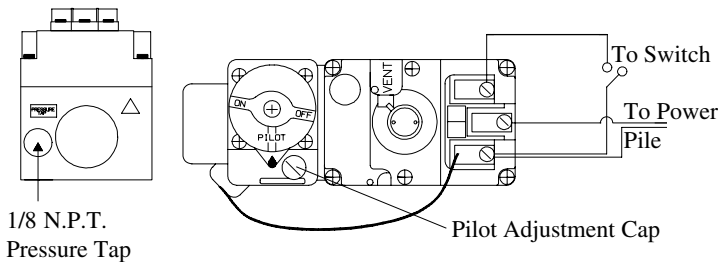

FIGURE 5. GAS CONTROL VALVE
The **Montigo 36SR** is equipped with a remote-operated valve, located behind the removable grille, at the bottom of the fireplace. (Refer to Figure 5 on the last page.) The valve is pre-wired and completely self-contained and self-powered: **DO NOT** connect any external power to it.
The gas control valve is located behind the grille in the centre of the fireplace (see Figure 5 below). Before lighting the pilot, make sure that the gas line is connected and the gas shut-off valve is turned to the ON position.
1. Remove Pilot Adjustment Cap (see figure 5).
Have the fireplace installation inspected yearly, including a visual check of the vent system, the burner and the pilot flame. For your convenience a 1/8" pressure tap is supplied on the gas valve for a test gauge connection. See Figure 5. This appliance requires a minimum gas pressure of 7" W.C. for natural gas. Always keep the fireplace area clear and free of combustible materials, as well as gasoline and other flammable vapours and liquids. Use a vacuum cleaner or whisk broom to keep the control compartment, burner, and firebox free from dust and lint. Logs may be cleaned periodically with a vacuum to remove soot and other contamination.